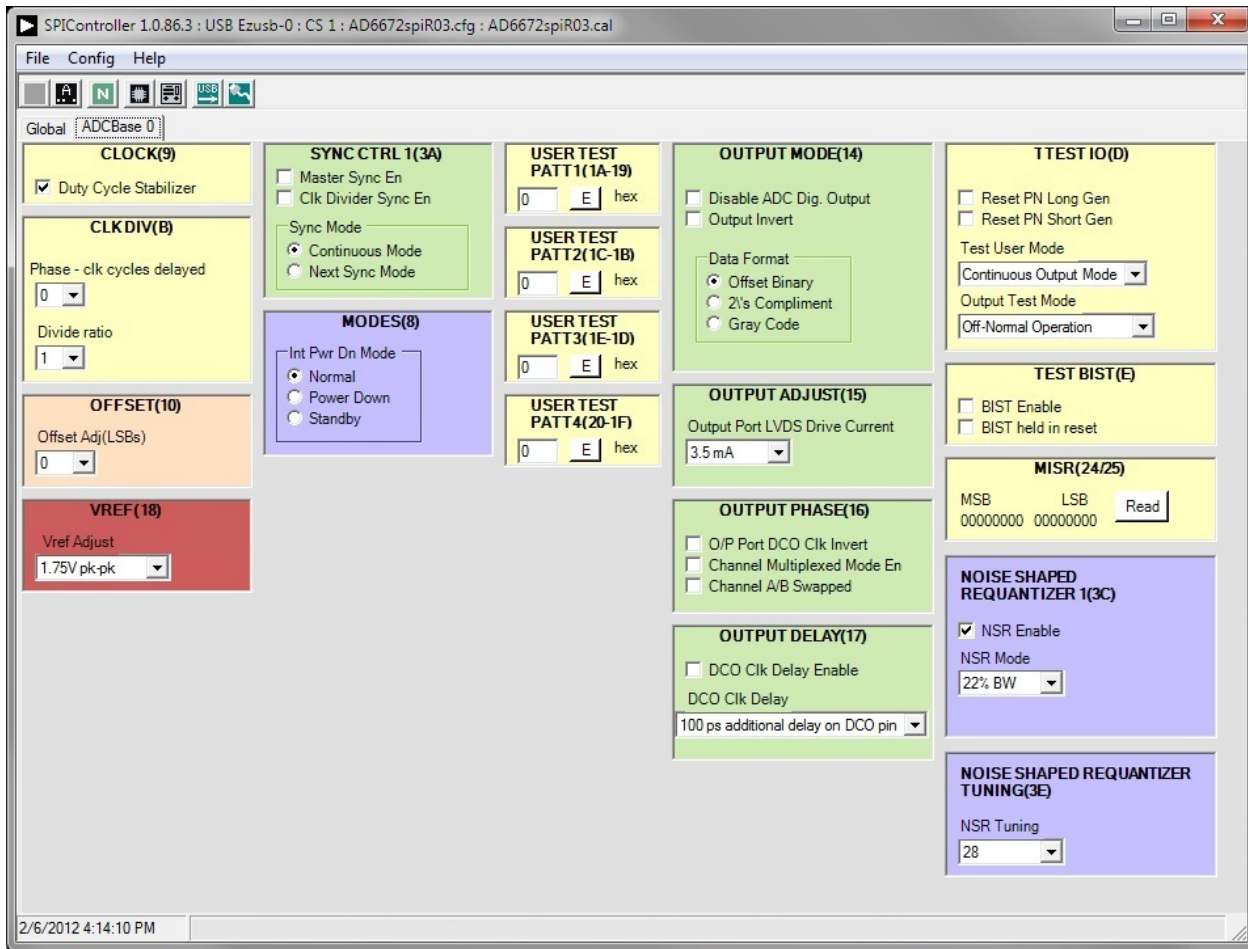

Figure 12. SPI Controller, Example ADCBase 0 Tab—NSR Settings for the AD6672
5. If using the noise shaping requantizer (NSR) feature of the AD6672, the settings in the ADCBase 0 tab must be changed (see Figure 12). The **NSR Enable** checkbox must be selected under the **NOISE SHAPED REQUANTIZER 1(3C)** section. This enables the circuitry in the AD6672. To select the bandwidth mode, use the **NSR Mode** drop-down box in the **NOISE SHAPED REQUANTIZER 1(3C)** section. Upon selecting the bandwidth mode, select the desired tuning word in the **NSR Tuning** drop-down menu under the **NOISE SHAPED REQUANTIZER TUNING(3E)** section.